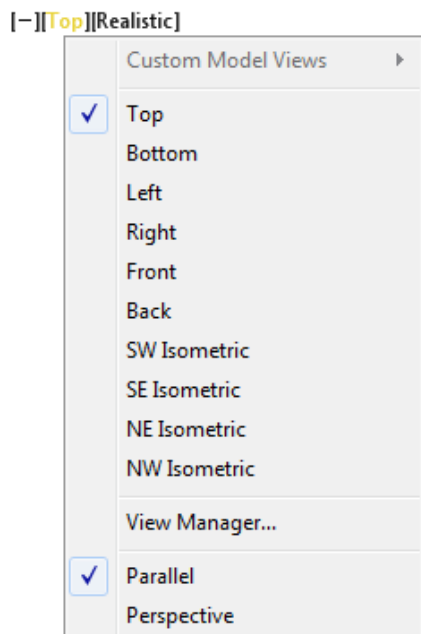

Figure Step 6A
Step 6 Enable Top to change the current view of the model to the Top. (Figure Step 6A and 6B)